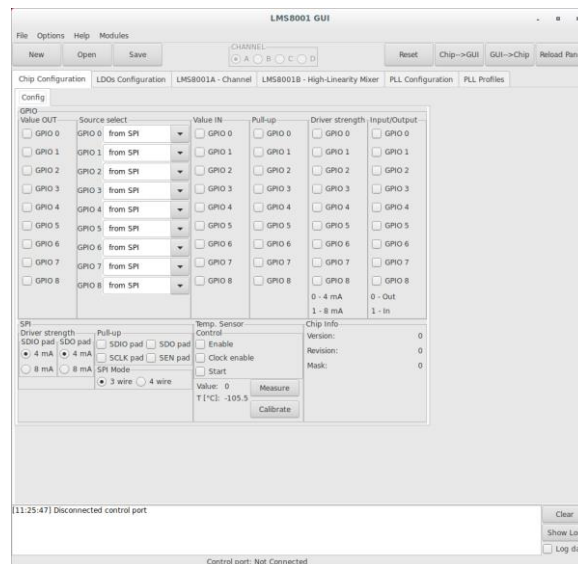

Figure 3.9: Startup window
4. Start the GUI application, lms8suite. After this step, the startup window shown in Figure 3.9 should appear.